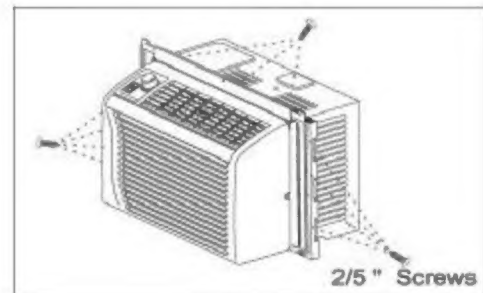

Fig. 2
2. Attach the channel seal to the channel bottom, and install the *top channel* to the air conditioner with screws, and insert the guides of the *curtain frame* into the guides of the unit, then fasten the curtains to the unit with screws. See Fig. 2.